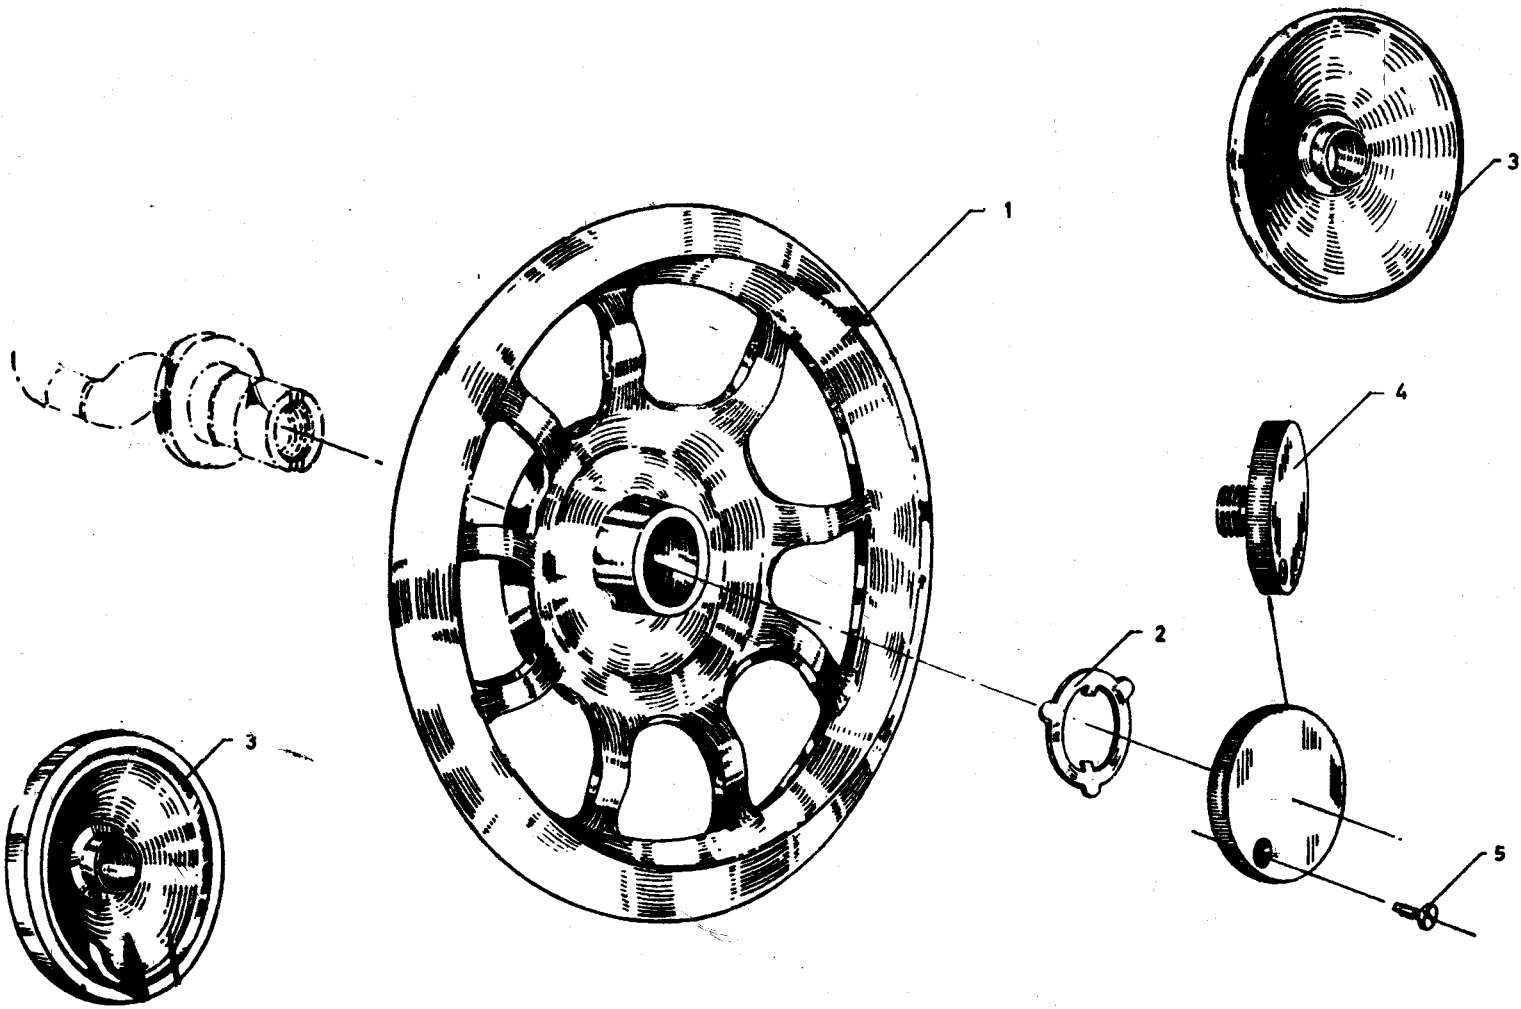

FIG. 7 FLYWHEEL ASSEMBLY
**2.7 Flywheel Assembly — See Fig. 7.**